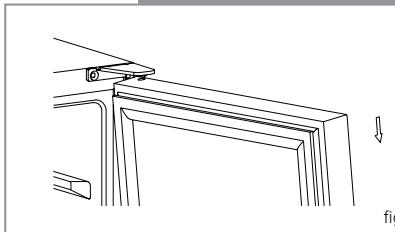

fig. 9
3. Gently lower the door away from the top hinge and place on a padded surface to avoid the risk of damage as shown in figure 9.